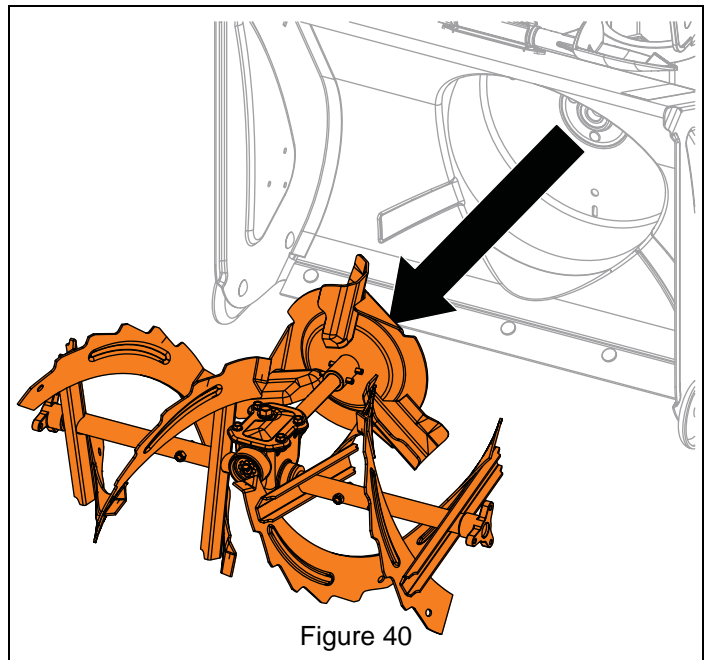

Figure 40
8. Remove auger assembly from housing. See Figure 40.
7. Remove auger assembly from housing. See Figure 40.